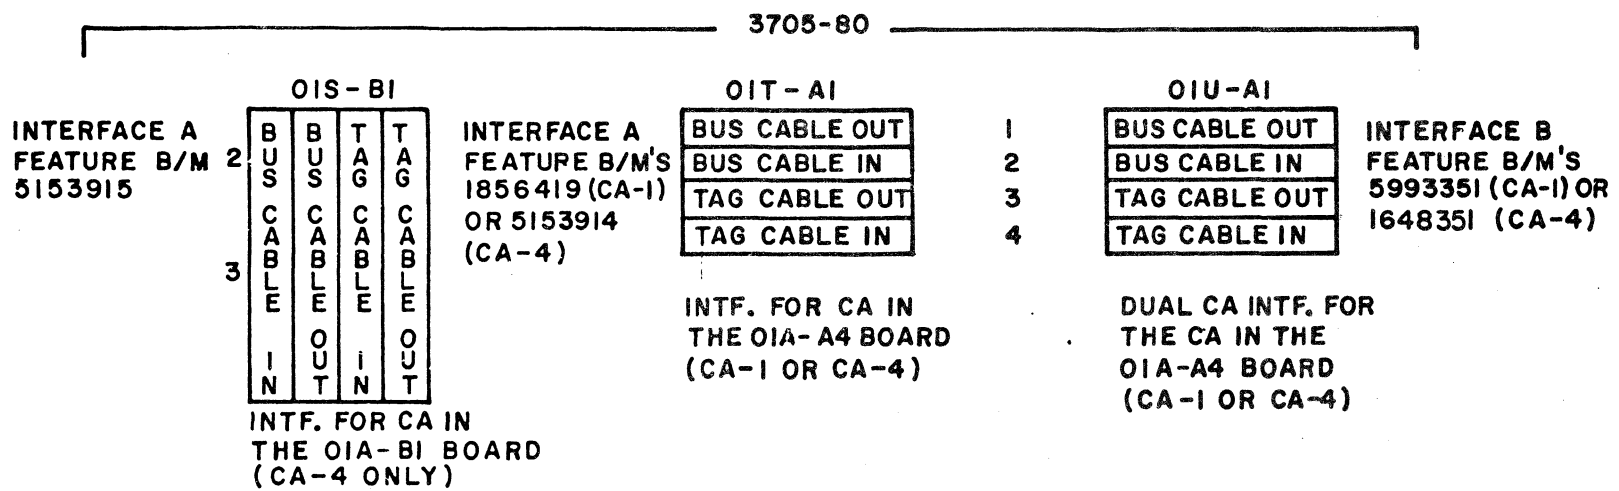

FIG. 8.0
INSTALL THE EXTERNAL I/O CHANNEL INTERFACE CABLES PER FIG 8.0 BELOW. STICK-ON HEX LABELS, P/N 1770838, ARE PROVIDED IN THE SHIPPING GROUP FOR THE CHANNEL ADDRESS(ES) TO BE PLACED NEAR THE APPROPRIATE CHANNEL ENABLE/DISABLE SWITCH(ES) ON THE FRONT PANEL, IF THE CUSTOMER DESIRES THAT THE ADDRESS(ES) BE INDICATED ON THE PANEL.